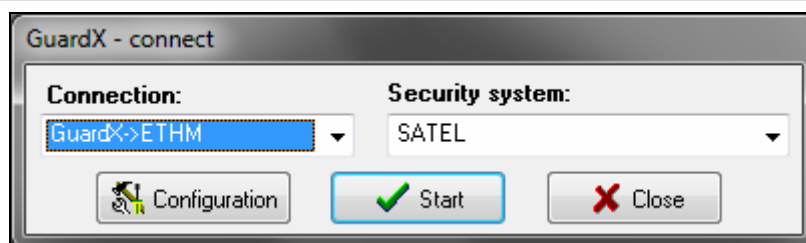
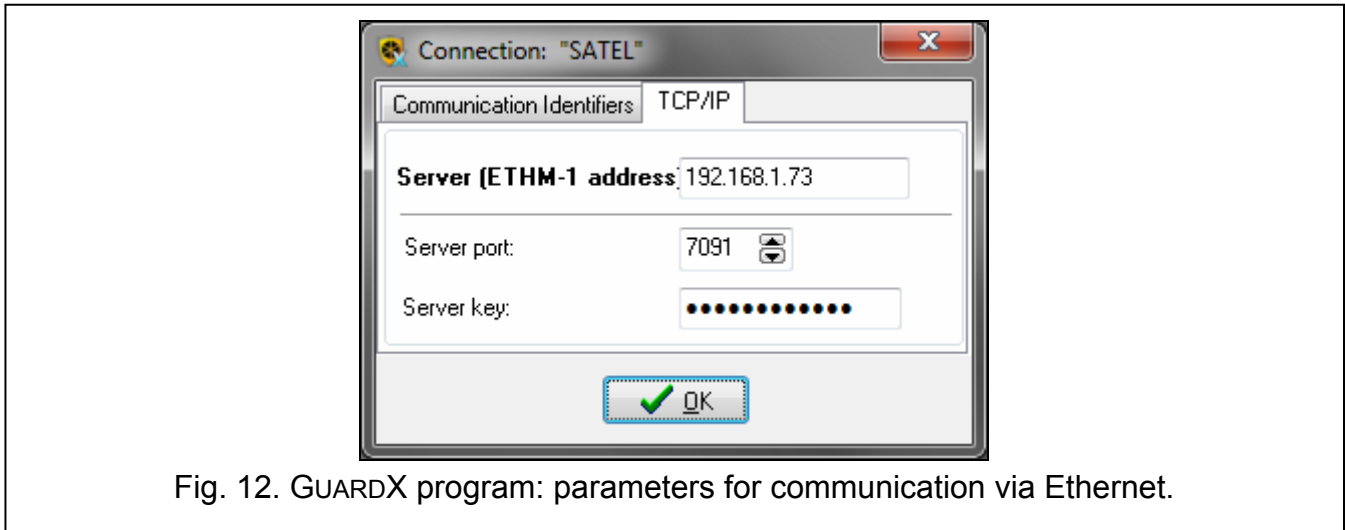

Fig. 11. GUARDX program: startup window.
Fig. 12. GUARDX program: parameters for communication via Ethernet.
In the startup window of GUARDX program (Fig. 11), click on the "Configuration" button. A window will be displayed, in which, in "TCP/IP" tab (Fig. 12), you should program:
1. In the startup window, "Connection" field, select "GuardX -> ETHM" (Fig. 11), and then click on the "Start" button.